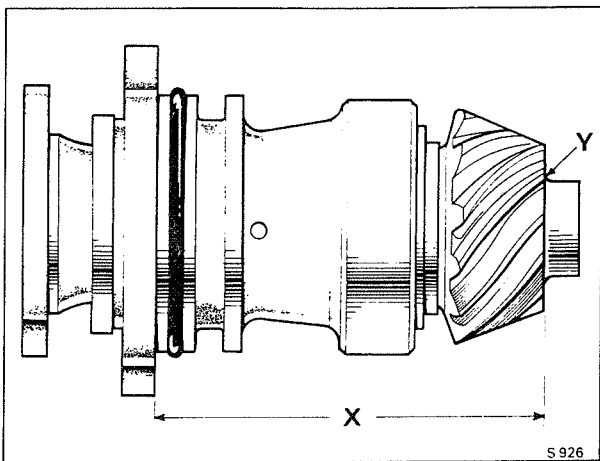

Fig. J8 Pinion housing measurement
5. Carefully measure from the back face of the pinion housing front flange to the face of the pinion gear, adjacent to the nose bearing diameter (see Fig. J8 dimension X).